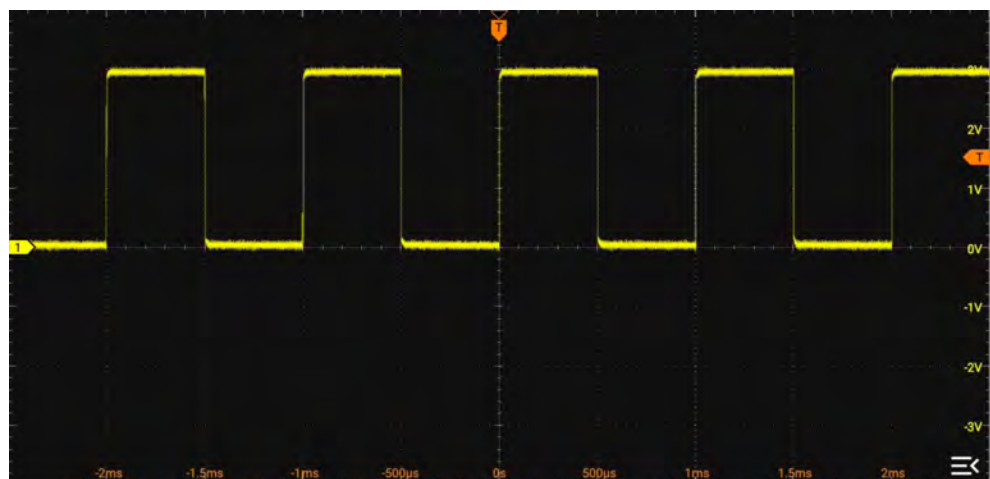

**Figure 4.13 Use the Compensation Signal**
2. Connect the ground alligator clip of the probe to the "Ground Terminal" as shown in Figure 4.13.
3. Use the probe to connect the input terminal of CH1 and the "Compensation Signal Output Terminal" of the probe, as shown in Figure 4.13.